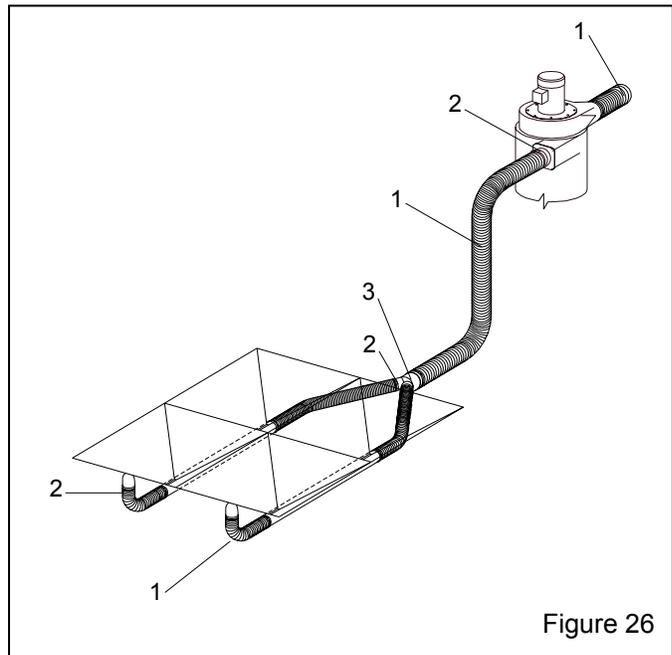

Figure 26
9.7 Flex Hose & Wye Adaptor, Figure 26